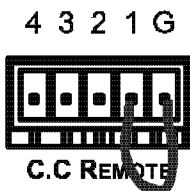

Figure 9: Using the C.C REMOTE Connector
Connecting the C.C REMOTE terminal block connector to a dry contact switch lets you route an input to the output by remote control. For example, to route input 1 to the output, as the example in Figure 9 illustrates, momentarily touch input # 1 to the Ground (G).